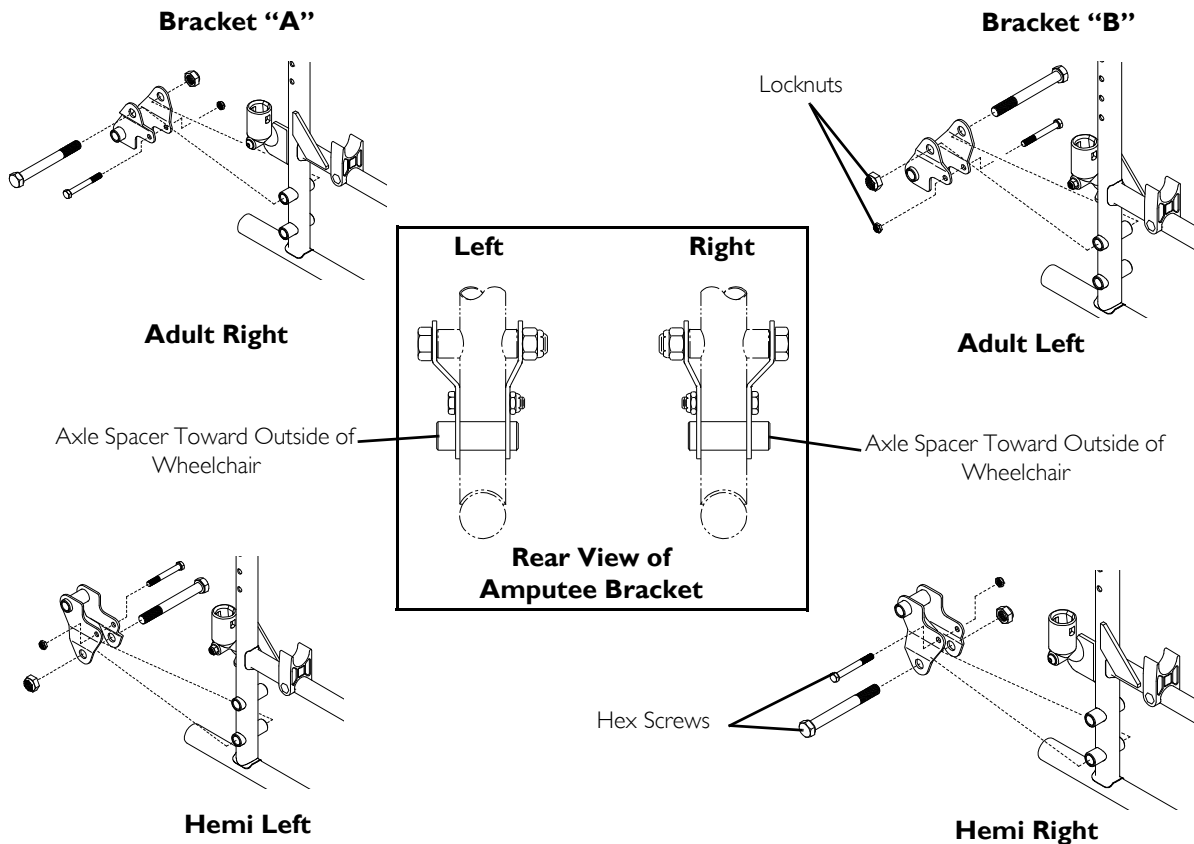

FIGURE 4 Installing Amputee Bracket - 9000SL/XT
1. Refer to the following chart or FIGURE 4 to determine the mounting position of the amputee bracket: